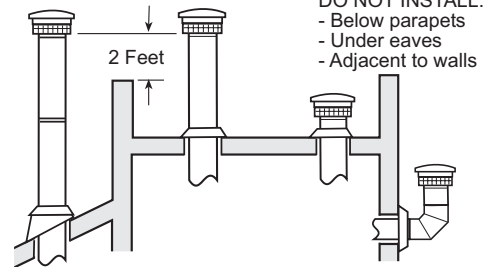

Figure 5. Termination Height Requirements.
- When terminating through the roof refer to the Gas Vent Rule for proper vent termination height. See fig. 5.